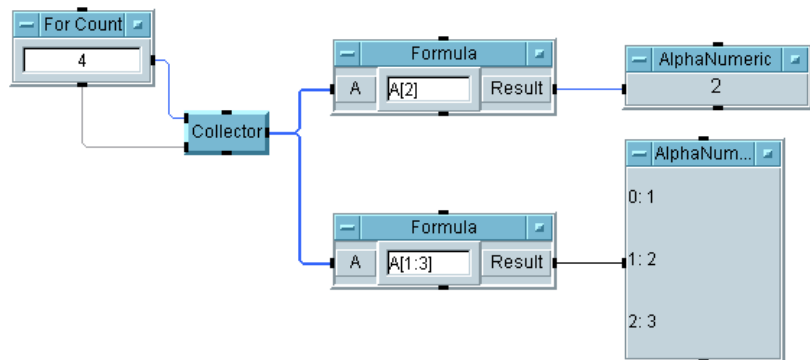

Figure 5-2. Extracting Array Elements with Expressions
5. Run the program. It should look like Figure 5-2.